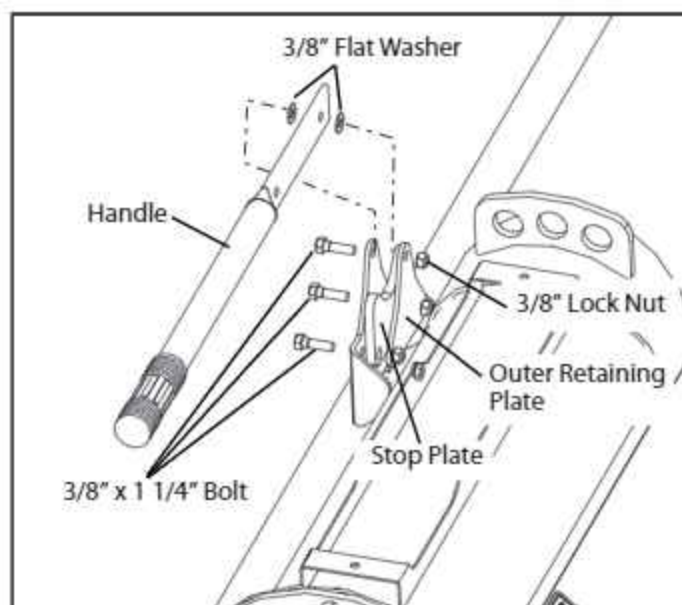

FIG. 3-79. Hopper Handle Assembly
1. Attach the Stop Plate and the Outer Retaining Plate to the plate welded to the tube using two 3/8" x 1 1/4" bolts and lock nuts. See Fig. 3-79.